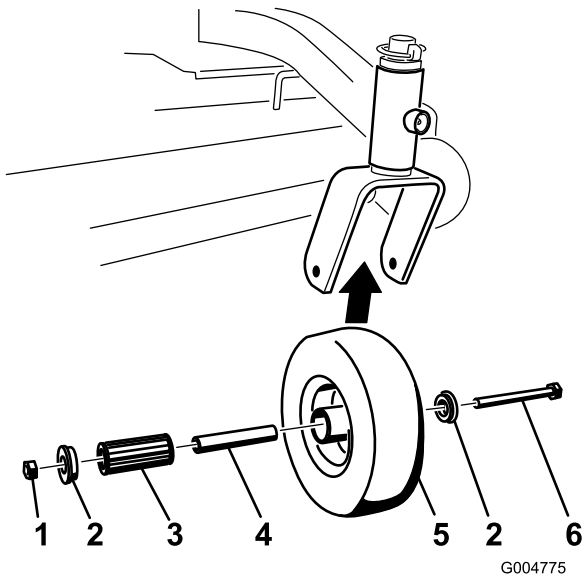

Figure 40
1. Remove the locknut and wheel bolt holding the caster wheel to the caster fork (Figure 40).
2. Remove one bushing, then pull the spanner bushing and roller bearing out of the wheel hub (Figure 40).
3. Remove the other bushing from the wheel hub and clean any grease and dirt from the wheel hub (Figure 40).
4. Inspect the roller bearing, bushings, spanner bushing and inside of the wheel hub for wear. Replace any defective or worn parts (Figure 40).
5. To assemble, place one bushing into the wheel hub. Grease the roller bearing and spanner bushing and slide them into the wheel hub. Place the second bushing into the wheel hub (Figure 40).
6. Install the caster wheel into the caster fork and secure with the wheel bolt and locknut. Tighten the locknut until the spanner bushing bottoms against the inside of the caster forks (Figure 40).